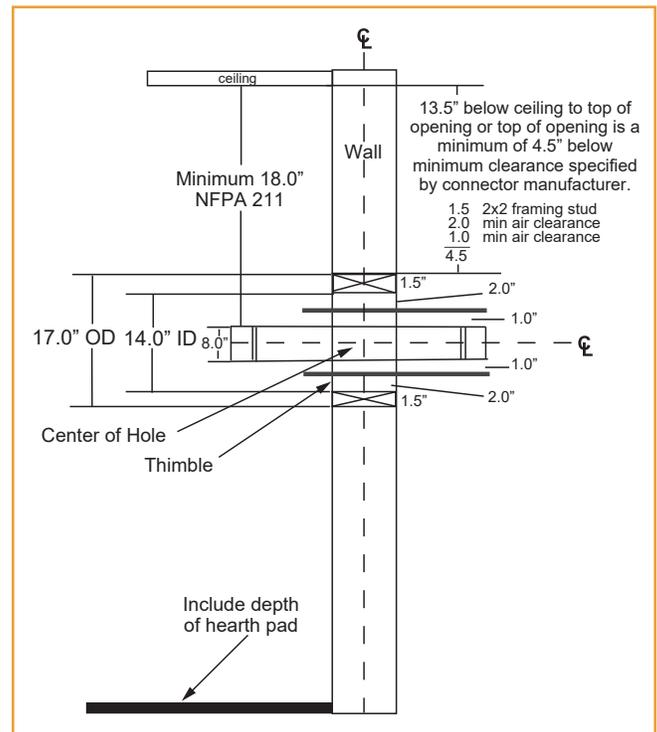

Figure 20.2
- Top of wall opening is a minimum of 13-1/2 inches (343mm) from ceiling or 4-1/2 inches (114mm) below minimum clearance specified by chimney connector manufacturer. **NFPA 211** minimum vertical clearance of 18 inches (457mm) from chimney connector and ceiling or minimum recommended by chimney connector manufacturer (**Figure 20.2**).
1. Open inside wall at proper height for the chimney connector to enter the masonry chimney (**Figure 20.2**).
3. Construct a 17 inch x 17 inch (432mm x 432mm) outside dimension frame from 2 x 2 framing lumber to fit into wall opening. Inside opening of frame should be no less than 14 inch x 14 inch (356mm x 356mm) (**Figure 20.2**).